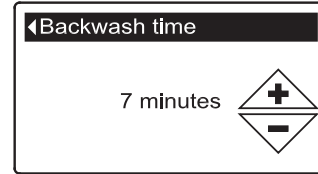

FIG. 129
- 8a. **Backwash time:** Press the UP (▲) or DOWN (▼) buttons to change the backwash time. Hold the button down to rapidly advance. The backwash time can be set from 1 to 30 minutes* (See Figure 129).